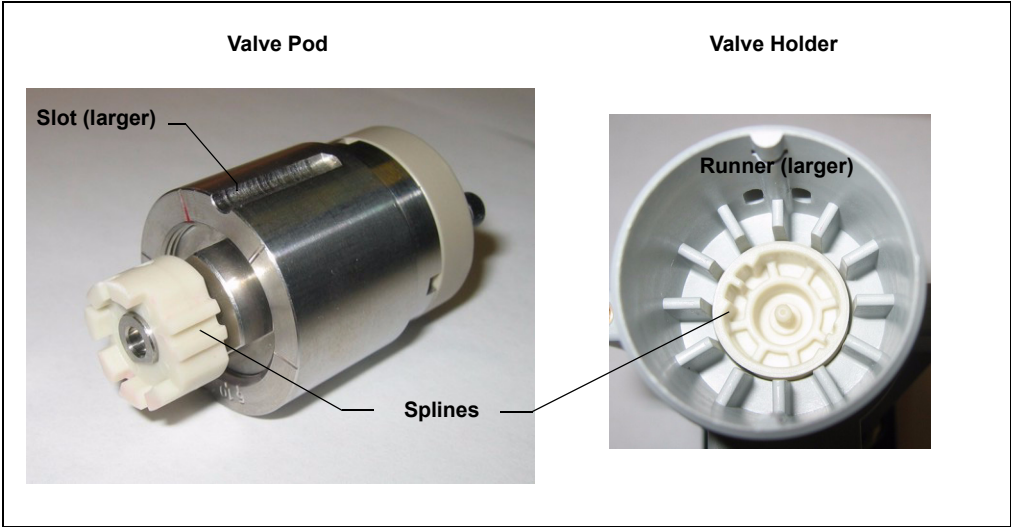

Figure 9-47. Injection Valve Pod and Pod Holder
7. Align the slots in the new pod with the runner in the valve holder in the TC (see Figure 9-47). Valve pods are keyed to fit only one way (one slot is narrower than the other). Verify that the slots are aligned with their matching runners.
8. Also verify that the two splines on the pod align with the matching splines inside the valve holder (see Figure 9-47). If necessary, twist the end of the pod to adjust the position of the splines.